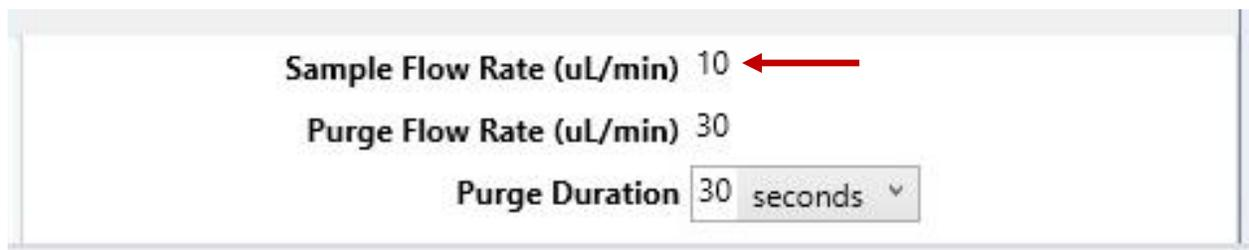

Figure 3.9 – Altering “Sample Flow Rate”
5. Click on the number next to “Sample Flow Rate” and change it to either 3 $\mu\text{L}/\text{min}$ for DESI or 10 $\mu\text{L}/\text{min}$ for ESI (Figure 3.9).